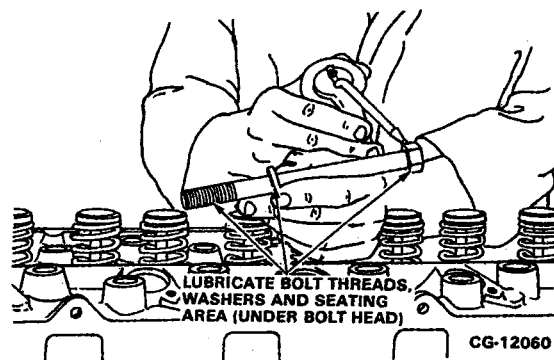

Figure 4.67. Lubricate Cylinder Head Bolts
5. Lubricate the cylinder head bolt threads, washers and under head seating area using clean engine oil. Refer to Figure 4.67.